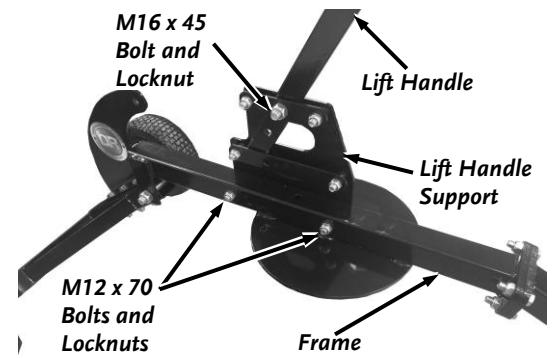

Figure 5
- Attach the Lift Handle Support to the left side of Frame using two M12 X 70 Bolts and Locknuts (**Figure 5**). Tighten the Hardware using two 19mm Wrenches.